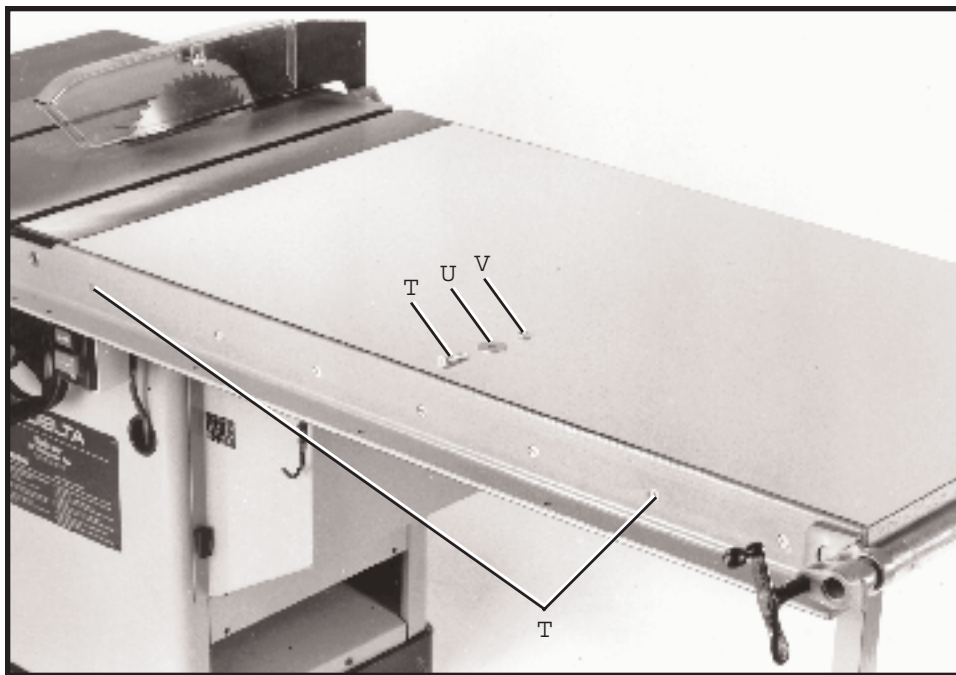

Fig. 16
13. After the holes have been drilled in the edge of the front and rear extension table board, fasten both front and rear rail to table using the 1-1/2 flat head Phillips screws (T) Fig. 16, 1-1/4 O.D. flat washers (U) and hex nuts (V).